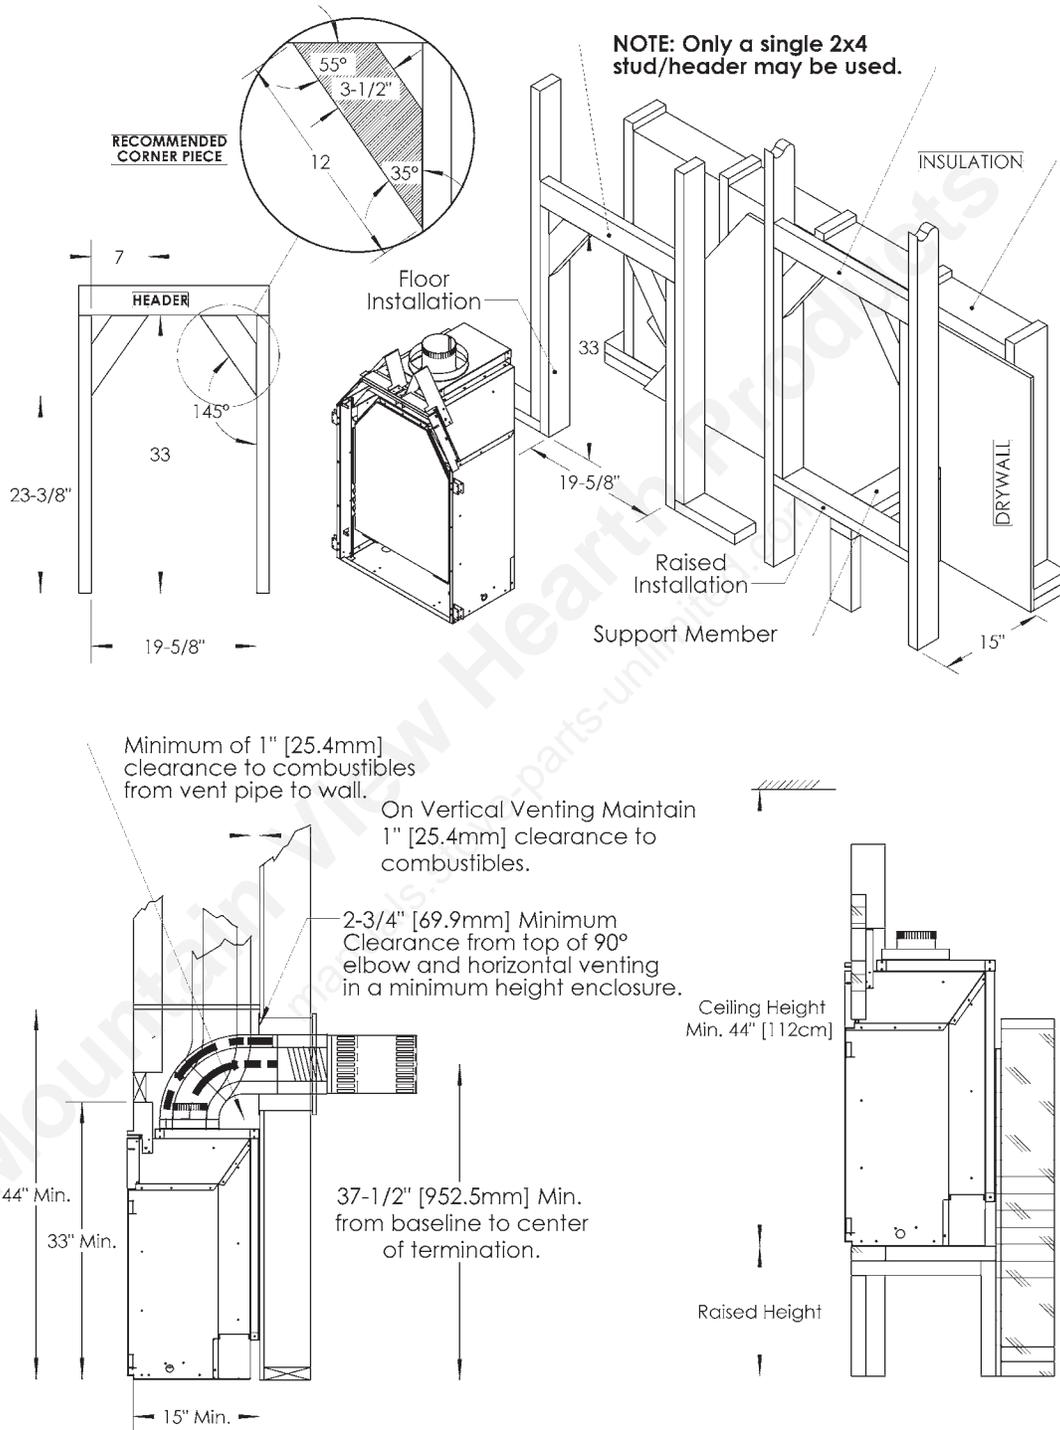
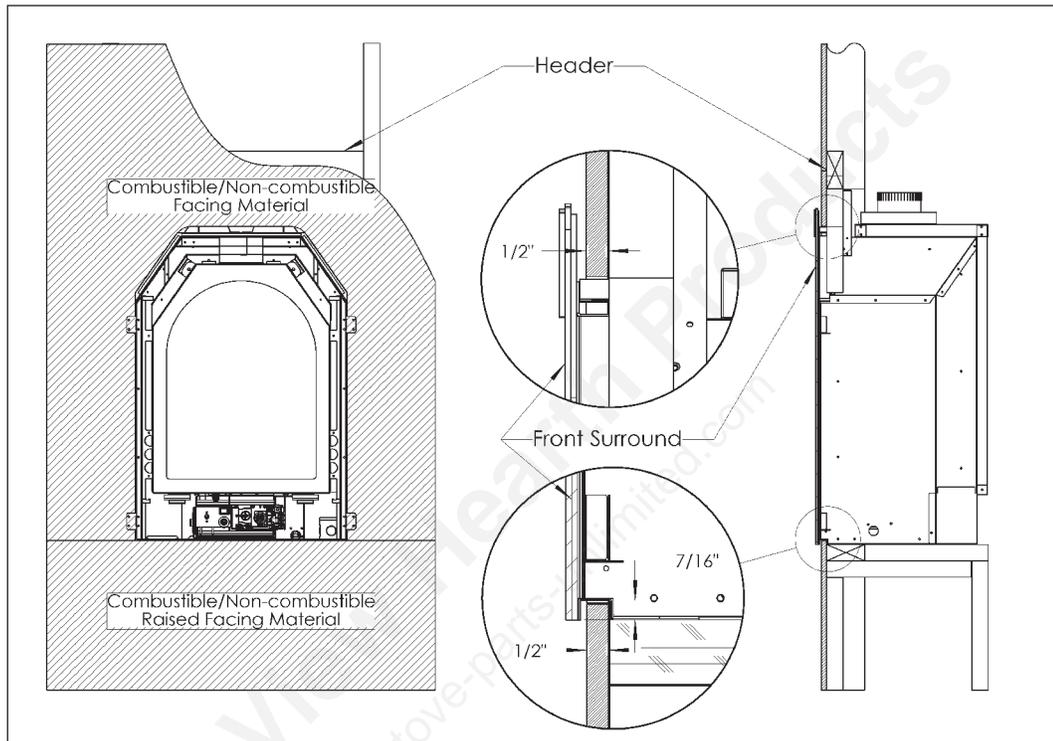

Figure 5 - General framing installation.
Figure 11 - Installation guide for 1/2" facing material.
For Corner Installations the minimum clearance to combustibles in Table 1 must still be adhered to. Please refer to Figure 5 and the Clearance to Combustibles table for more information.
For Raised Installations the minimum clearance to combustibles mentioned in Table 1 must still be adhered to. Please refer to Figure 5 and the Clearance to Combustibles table for more information. Furthermore, make special considerations to the Minimum Ceiling height restriction. This value is taken from the bottom of the appliance—**not the floor**. Thus, if the unit is installed in a raised configuration then the absolute ceiling height will be:
This formula is illustrated in Figure 5.
**NOTE: Only one 2x4 stud/header may be used in the frame. Please refer to Figure 5 on page 10 or Figure 11 below.**